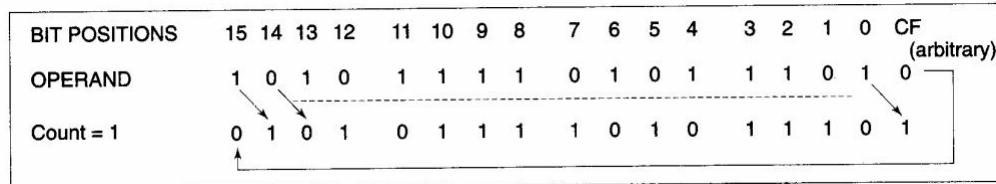

Figure 5.8
**RCR:** Rotate Right through Carry: This instruction rotates the contents (bit-wise) of the destination operand right by the specified count through carry flag (CF). For each operation, carry flag is pushed into the MSB of the operand, and the LSB is pushed into carry flag. The remaining bits are shifted right by the specified count positions. The SF, PF, ZF are left unchanged. The operand may be a register or a memory location. Figure 5.8 explains this operation.